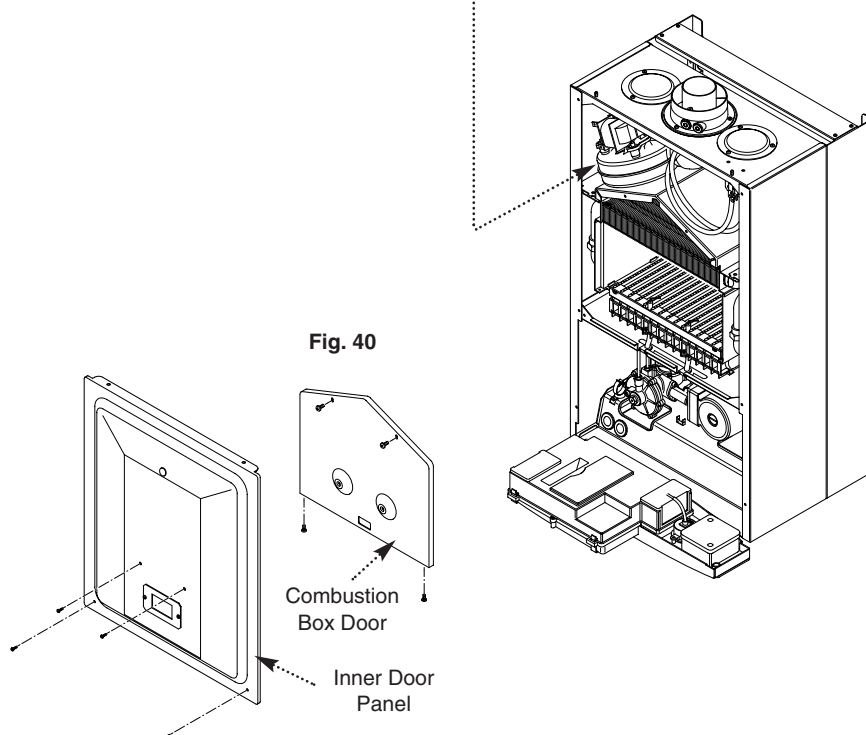

Fig. 40
6. Remove the screws securing the inner door panel. Lift the panel slightly to disengage it from the studs on top of the case (Fig. 40).
9. Remove the four screws securing the combustion box door and remove the door (Fig. 40).